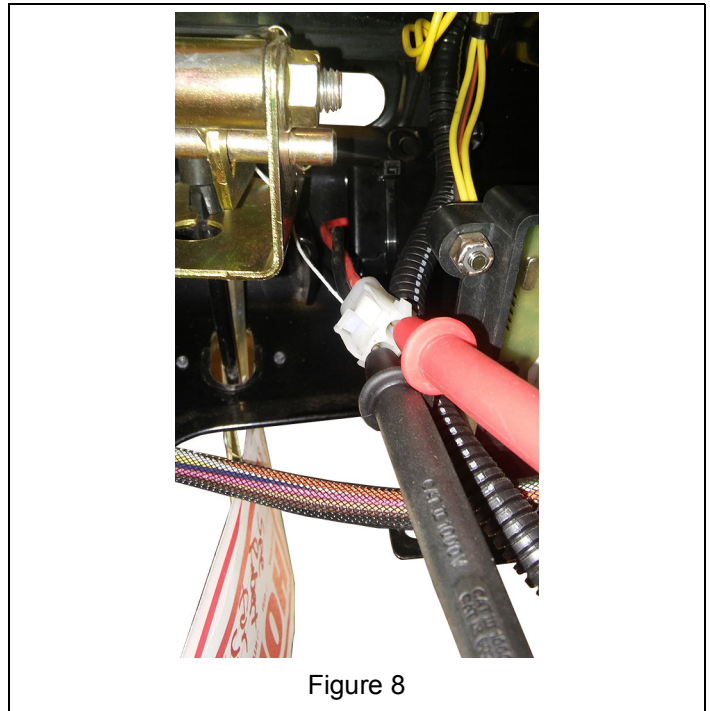

Figure 8
- b. Check the battery. With the engine off, the battery voltage should be 7.2 V DC – 8.4 V DC. See Figure 8.
If DC output is higher than 8.4 V DC, replace ECU. See Figure 8.